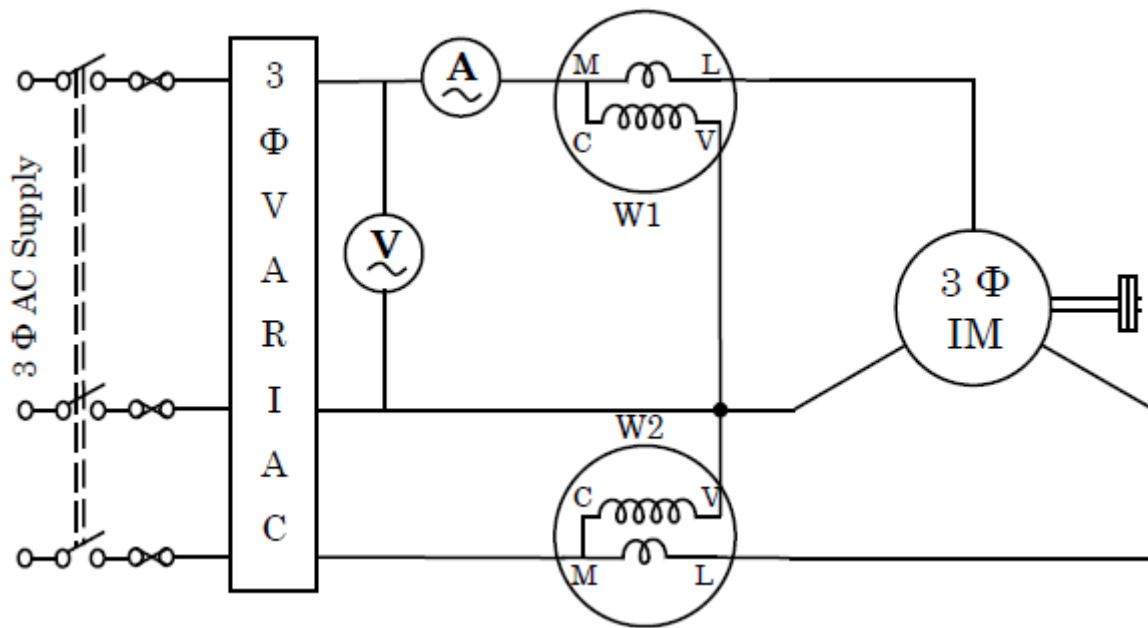

Figure 3: Experimental set-up for performing no load and blocked rotor test of induction motor.
2. Connect the circuit as shown in Figure 3.
2. Connect the circuit as given as in Figure 3.
1. Connect the circuit as given as in Figure 3.